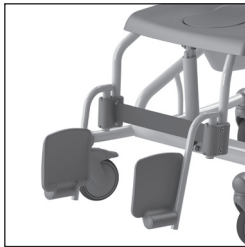

Figure 2 Folding up foot plates.
- Before the client takes a seat in the Nemo, the foot plates must be folded upwards. This will ensure there is sufficient space for the person to easily take a seat in the chair (See figure 2). If more room is required, the foot rests can be turned out (See figure 3). First, the foot rests must be slightly raised (1) and then they can be turned outwards (2).